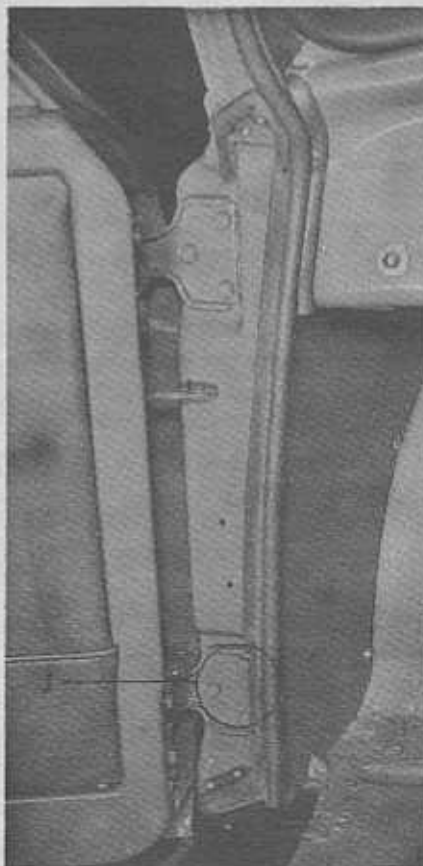

Fig. 1
Newly designed and improved hinge pillar weatherstripping is currently being installed on the Henry J models K-523 Corsair and K-524 Corsair deLuxe. This new weatherstrip (Fig. 1), provides a more effective and positive seal between the hinge pillar and the door.
2. Clean the face of the hinge pillar. Apply a coating of weatherstrip cement (Minnesota Mining 3M or equivalent) on the face of the hinge pillar, according to the manufacturer's instructions on the area to which the new weatherstrip is to be cemented (the inner side will be close to the wind cord, Fig. 1.) Also apply weatherstrip cement to the attaching face of the new weatherstrip.
3. After the cement has dried so that it is tacky, carefully position the weatherstrip on the hinge pillar, using the lower hinge pocket tab (1, on Fig. 1) of the weatherstrip to locate the weatherstrip on the hinge pillar.
4. Insert the tab (1, Fig. 1) into the hinge pocket so that the ends of the tab align with the inner end of the door hinge and the body of the weatherstrip is close to the weather cord. Press the weatherstrip in place adjacent to the hinge pocket.
5. Press the upper and lower part of the weatherstrip in place, locating as shown in Fig. 1. Do not stretch the weatherstrip during installation.